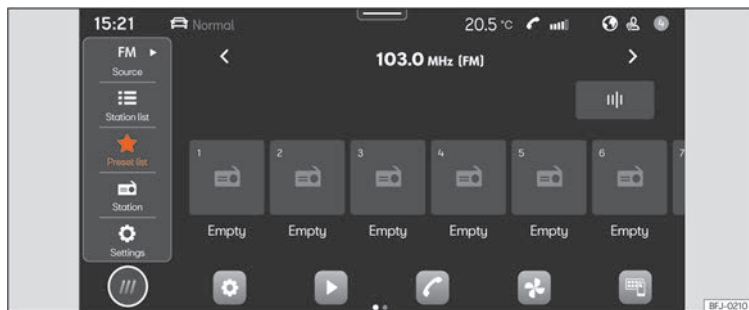

Fig. 151 Schematic representation: Radio view
- Press **HOME** > >>> **Fig. 151**.